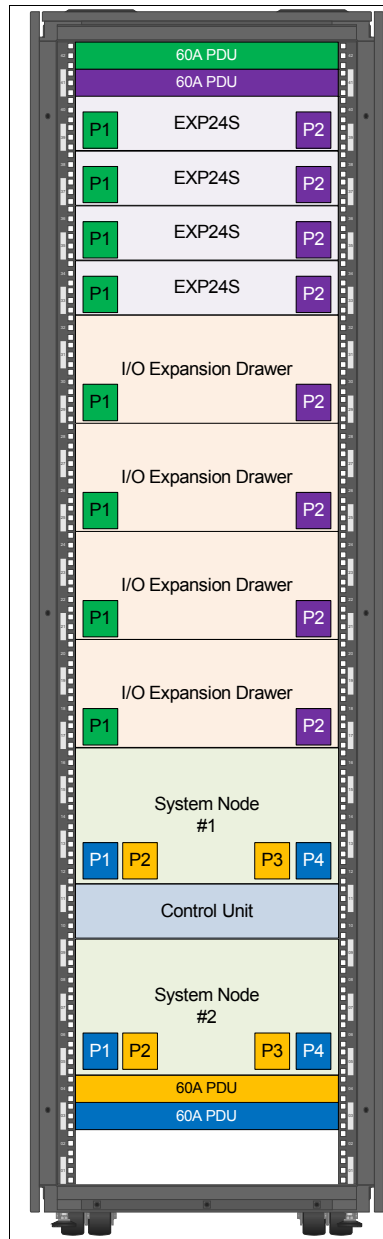

Figure 1-14 Two system nodes configuration with I/O expansions and disk drawers supplied by 60A PDUs
- For PDU #7109 and #7188 when three-phase power cords or 48 Amp power cords #6491 or #6492 is used, each pair of PDUs can power up to two Power E870C or Power E880C system nodes and two I/O expansion drawers, or eight I/O expansion drawers. The 48A PDU cables are used to supply 60A PDU. The rack configuration with two pairs of 60A PDUs supplying a two system node configuration, four I/O expansion drawers, and four EXP24S disk drawers is shown in Figure 1-14.